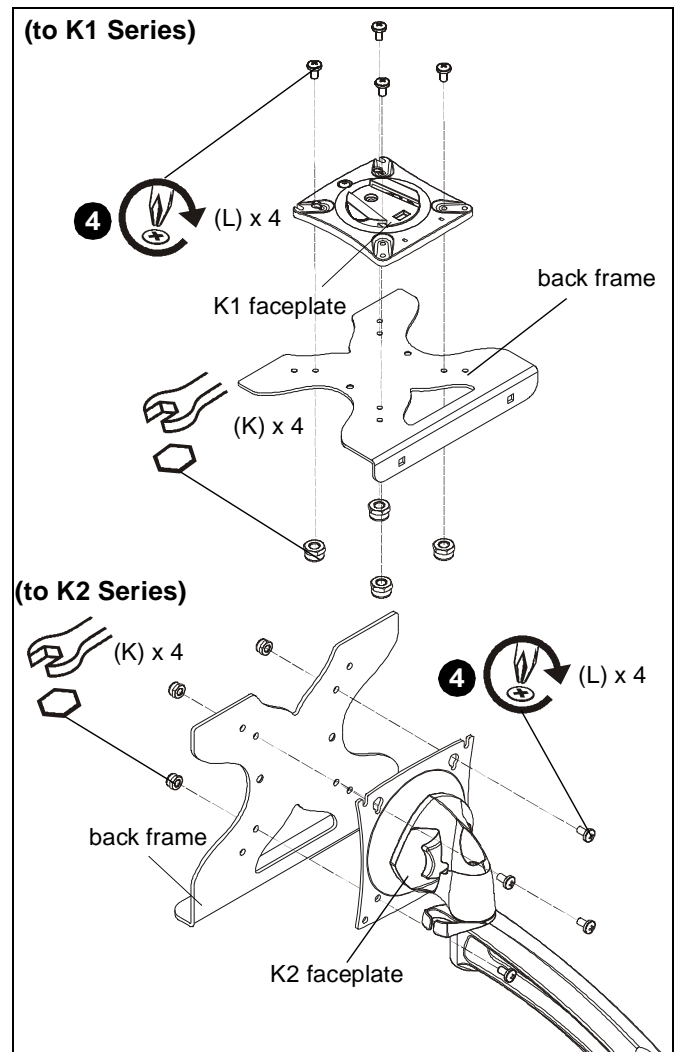

Figure 4
4. Use four M4x6mm Phillips screws (L) and four M4 lock nuts (K) to secure faceplate to back frame. (See Figure 4)